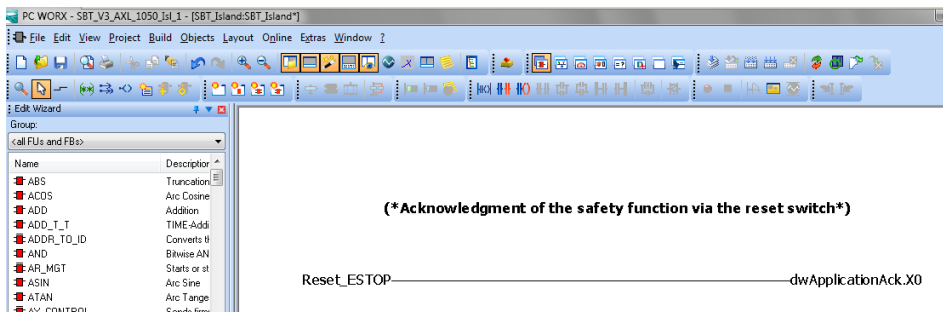

Figure 3-42 Program for acknowledging the safety function
- Create the program shown in Figure 3-42 in order to acknowledge the safety function.